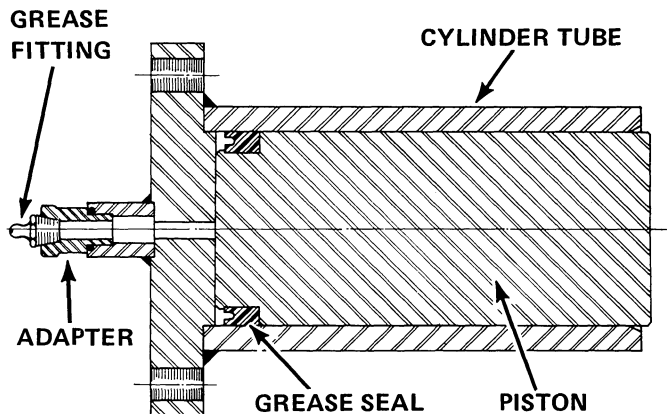

Figure 24. Track Adjustment Cylinder
1. Install a new o-ring behind the adapter for mounting the grease fitting. See Figure 24.